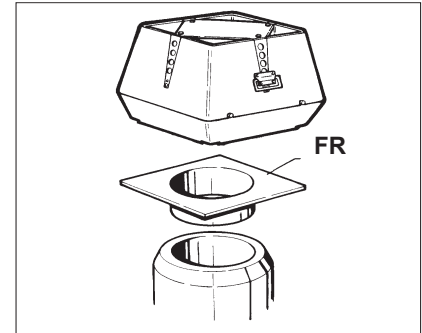

Fig 2
- Insert the adapter (FR) into the grease duct, where the long collar engagement ensures safe anchoring (See Fig. 2). If necessary, the adapter can be secured by means of long self-tapping stainless steel screws into the side of the grease flow. Do not obstruct the grease flow.